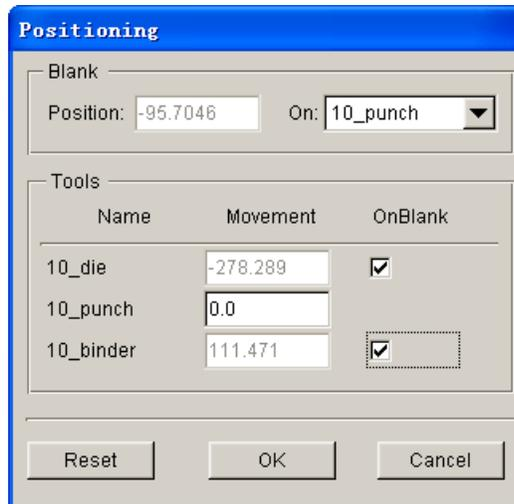

Figure 1.31 After tools auto positioning
- Select punch in the drop-down list for On in **Blank** group as the reference tool for auto positioning, which means that this tool is fixed during auto positioning. Then activate the checkboxes for die and binder in Tools group to auto-position all the tools and blanks. The result is illustrated in Figure 1.31.